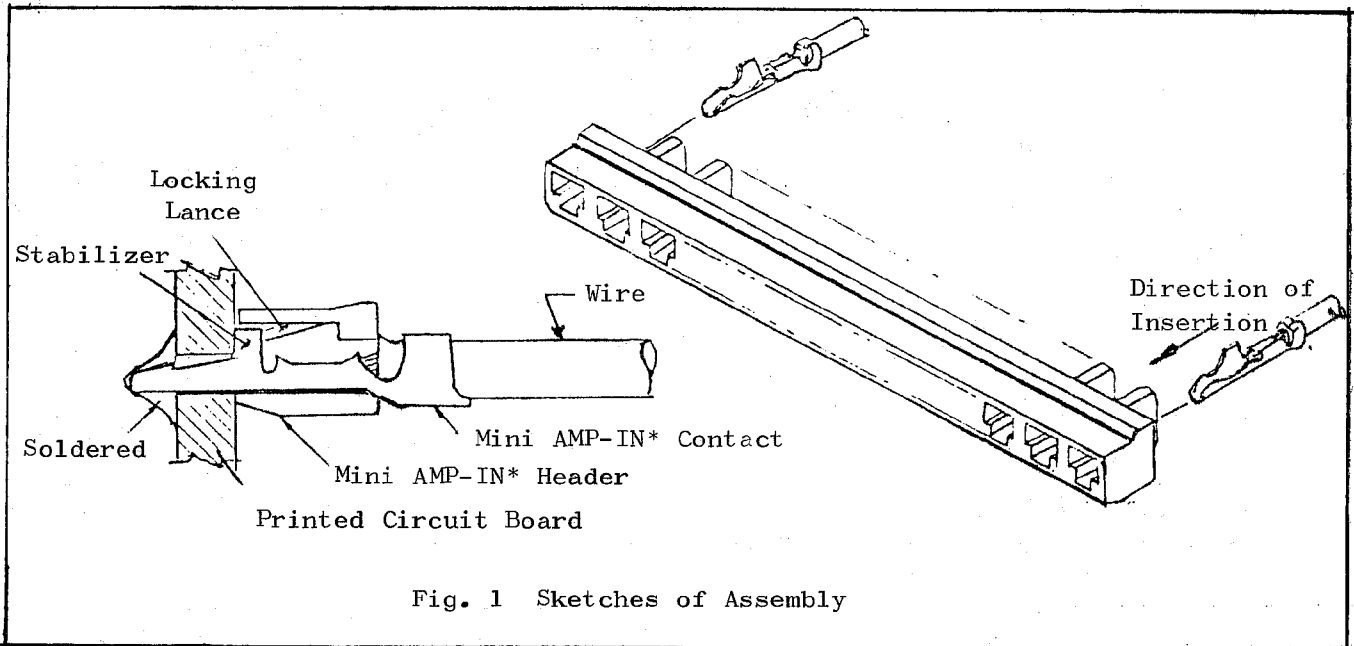

Fig. 1 Sketches of Assembly
2.1 When to insert contacts into the header, they must be oriented to the header as shown in Fig. 1, so that they can enter straight to pass through into the cavity freely without any force applied.
a) You must not insert a contact in directions other than shown in Fig. 1. Forced insertion may cause the contact to distort.